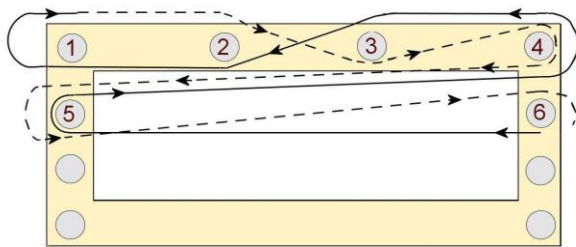

Figure 1 Measuring the warp
1. Make a guide string by cutting a piece of yarn 12 inches longer than the length of a warp end. Tie a loop in one end and slip the loop on peg 1. Create a path similar to the one shown in figure 1. Tie off on the last peg, in this example, peg 6. This is the path to follow when measuring the warp.
2. Tie the warp yarn to the **last peg** following the path of the guide string. Move to pegs 5, and 4. Make the first half of the cross by going over peg 3, then under peg 2 and 1. Peg 1 is the turning point. On the return path go over pegs 1 and 2 and under peg 3. Continue the path of the previous warp to peg 6. Figure 1